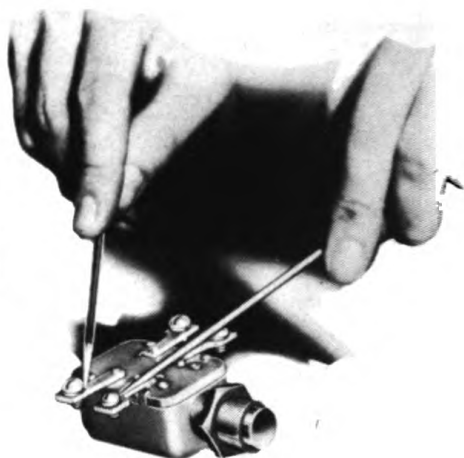

Figure 263. Testing Push Button Switch for Opens.
2. With the button held in, touch the "BAT" and "S1" terminals of the switch, as illustrated in Figure 263. The lamp should light. Touch the "S2" and the "S3" terminals with the button in. If the lamp fails to light in either of these tests, the switch should be replaced.